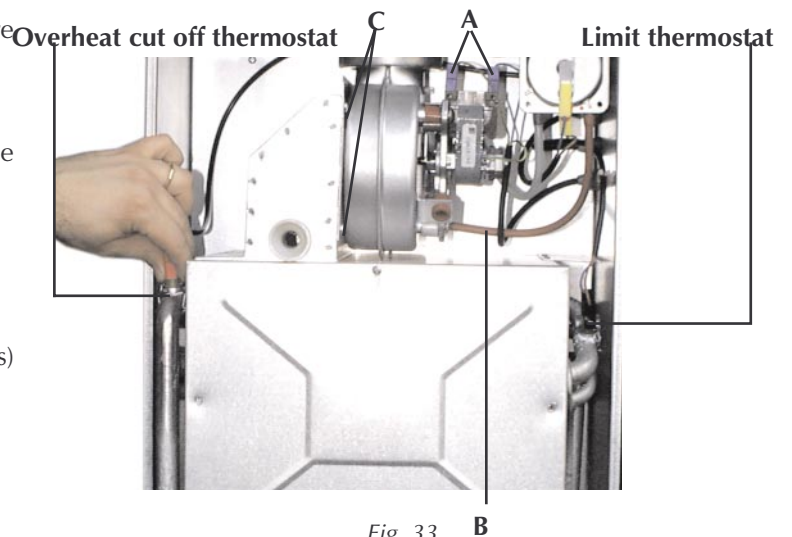

Fig. 33 B
7.10 Removal of fan (fig. 33)
7.11 Limit thermostat, or overhear cut off thermostat (fig. 33)
- Identify the location of thermostat from fig. 33